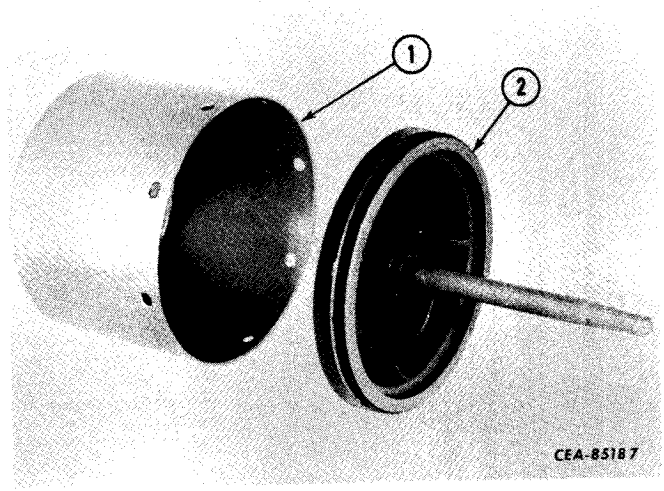

Figure 13-60
Slide the piston and rod assembly (2, Fig. 13-60) out of the shell (1).